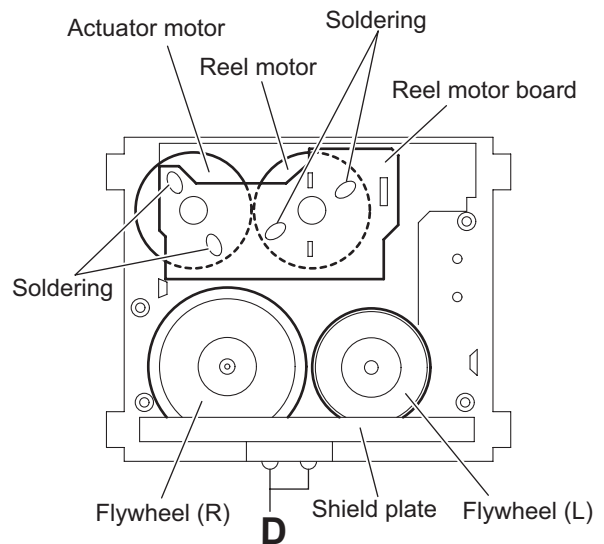

Fig.15
3.2.4 Removing the flywheel assembly (Fig.15)
- (1) Remove two screws **D** and remove the shield plate.
- (2) Pull up the flywheel (L) and (R), and remove them.
3.2.5 Removing the reel motor board (Fig.15)